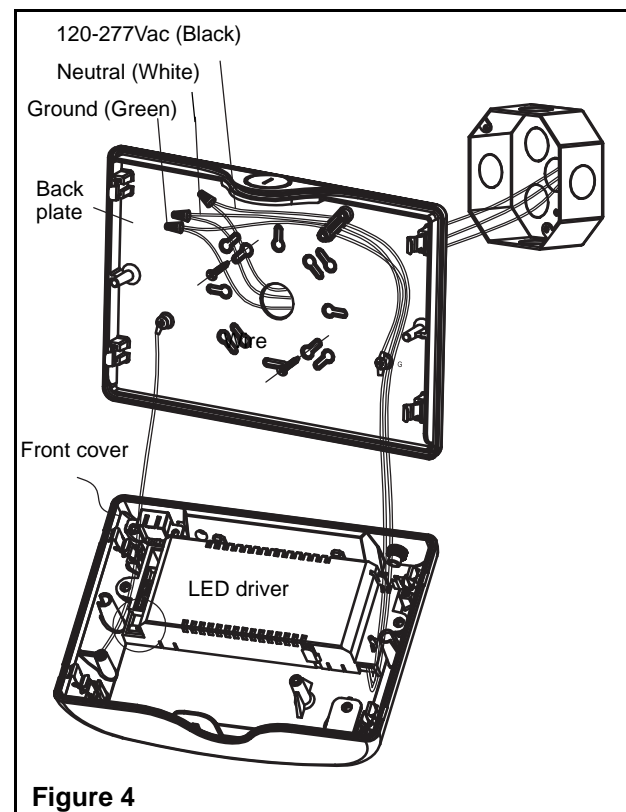

Figure 4
4. Mount and secure the back plate to the junction box (see figure 4).